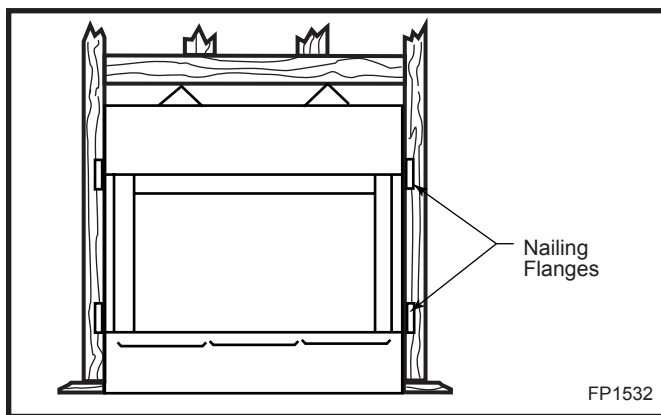

Fig. 5 Secure firebox.
Four (4) nailing flanges are supplied with the fireplace (found on the fireplace hearth). To level the box and secure it firmly in place, remove the nailing flanges from the hearth and install at the sides of the fireplace as shown in Figure 5.